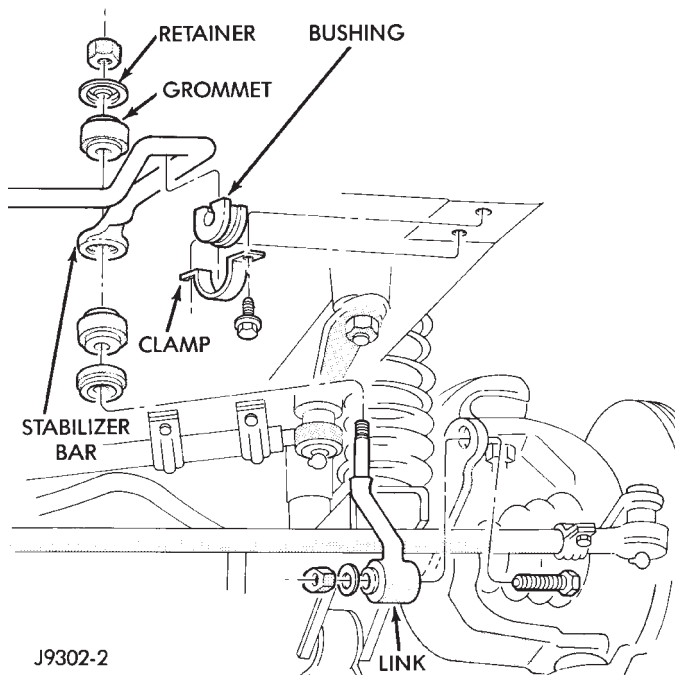

Fig. 2 Stabilizer Bar
- (2) Disconnect the stabilizer bar links from the axle brackets (Fig. 2).
- (3) Disconnect the stabilizer bar from the links.
- (4) Disconnect the stabilizer bar clamps from the frame rails. Remove the stabilizer bar.
(2) Install the links and grommets onto the stabilizer bar and axle brackets (Fig. 2). Tighten the nut at the connecting links at the axle bracket to 95 N•m (70 ft. lbs.) torque.